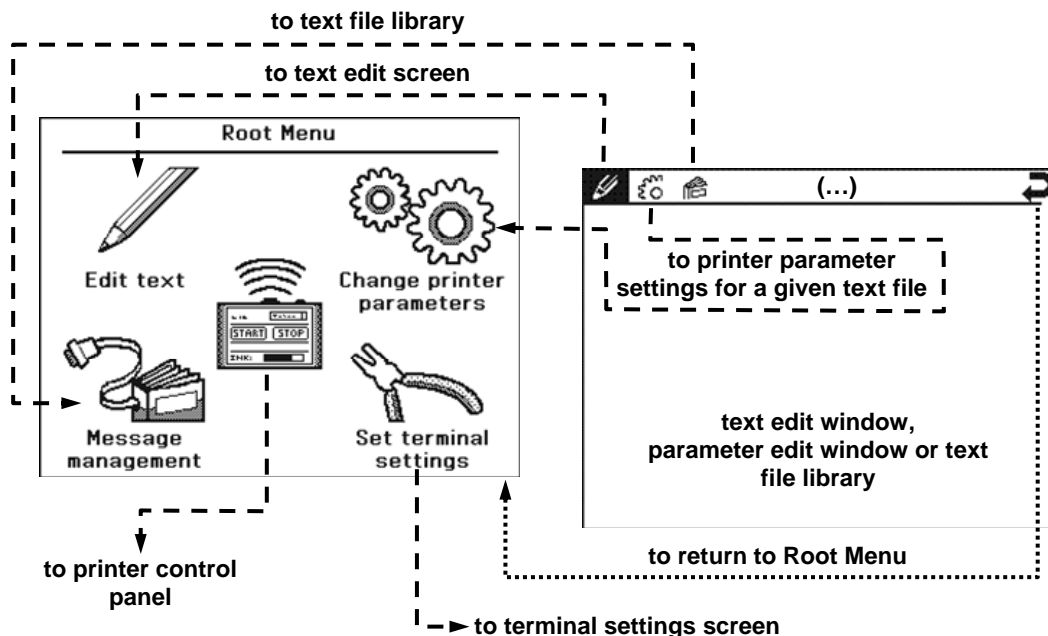

Fig. 6.2
Before you start using the terminal, you can configure it to satisfy your needs. In order to do that, select the **Set terminal settings** button on the **Root Menu** screen (see Fig. 6.2). A terminal settings screen ❶, is displayed.
After the **Edit text** button has been selected on the **Root Menu** screen (see Fig. 6.2), the following screen is displayed:
In order to display the contents of the text file library, select the **Message management** button from the root menu (see Fig. 6.2). The following screen is displayed.